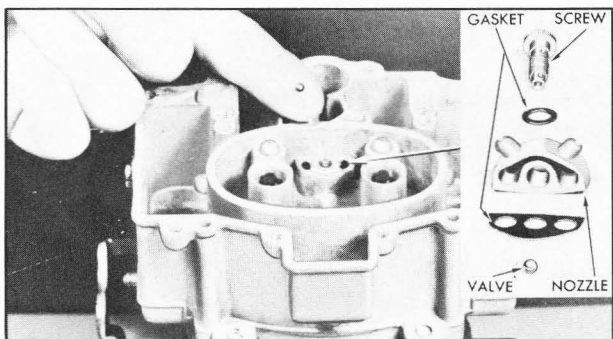

Figure 3-92—Installing Check Valve Ball and Pump Discharge Nozzle
9. Install the pump outlet check valve ball, new nozzle gasket, the discharge nozzle, the nozzle attaching screw and a new gasket. See figure 3-92.